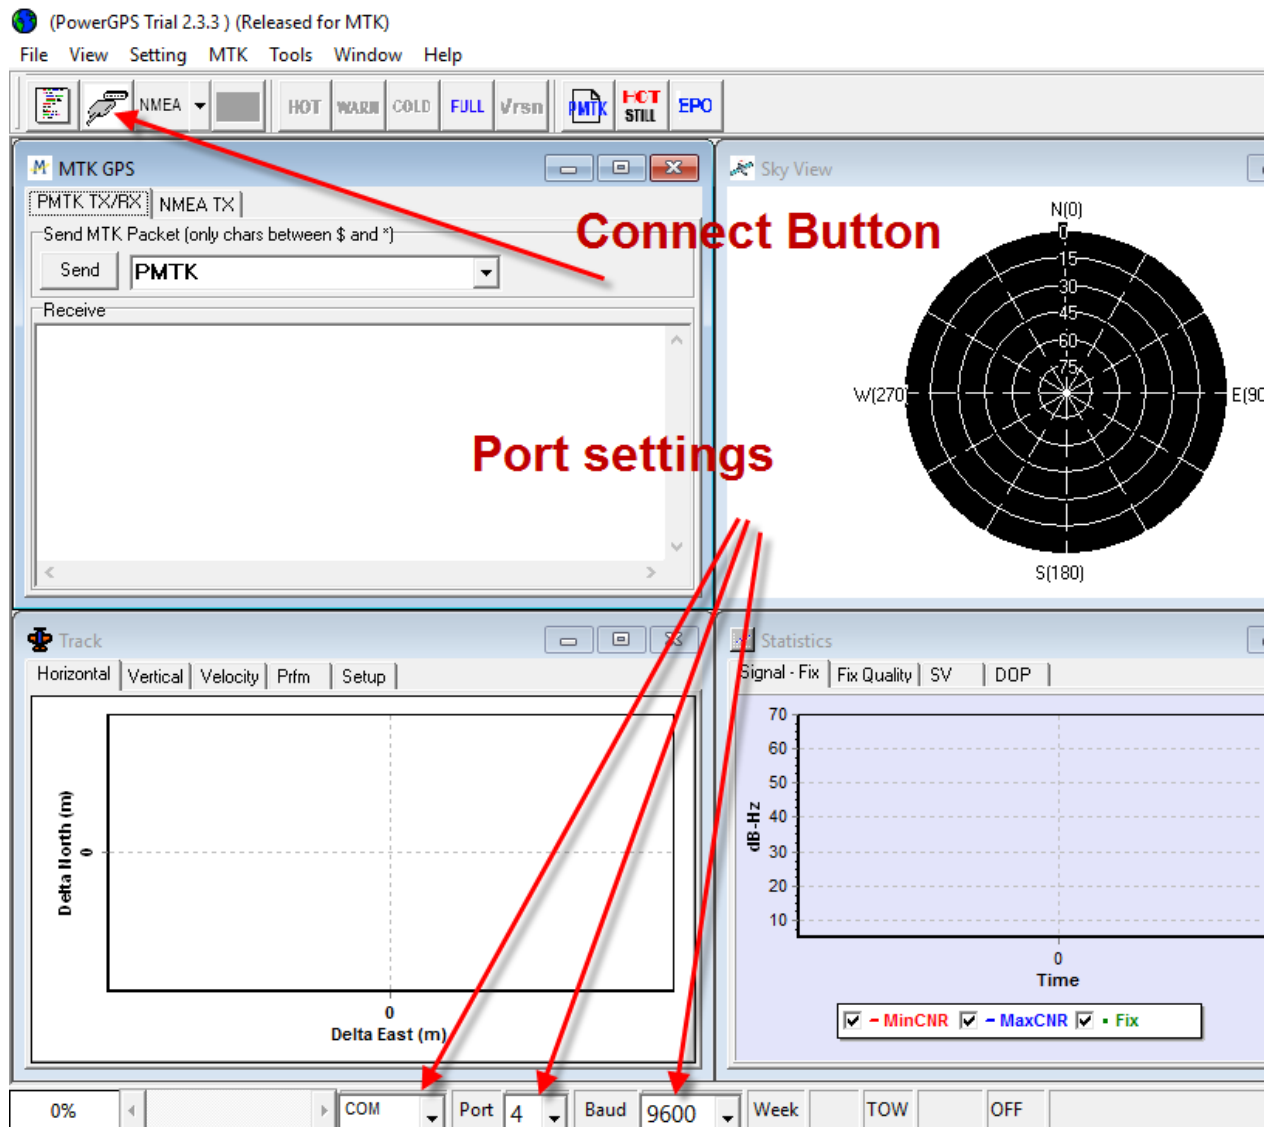

Figure 1 – PowerGPS main window
2. Set the port settings – COM port number, baud rate – MTK standard is 9600. After you set the baud rate configurations, press the connect button (figure 1).